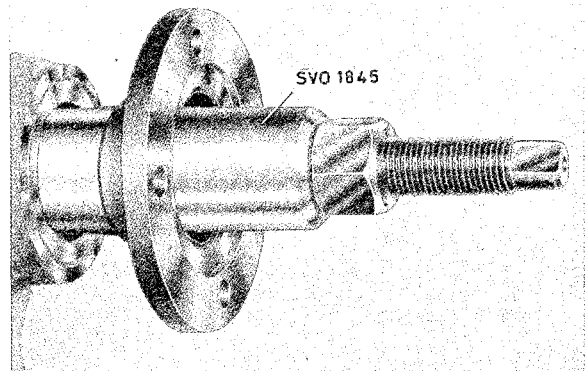

Fig. 4-39. Fitting flange
4. Press on the flange with tool 1845, see Fig. 4-39.